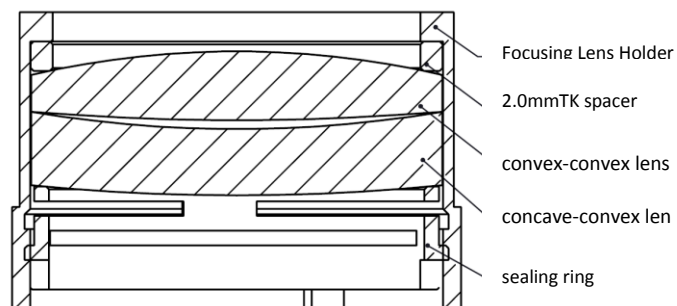

Figure 15. D28mm FM Lens Holder Installation Instruction
- See Figure 15, put the focusing lens and the spacer rings in the lens holder carefully.